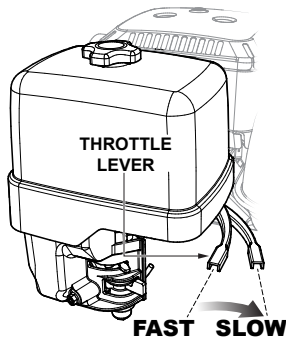

Figure 24. Throttle Lever (Idle)
1. Place the throttle lever (Figure 24) in the slow (idle) position, and let the engine idle 3~5 minutes.